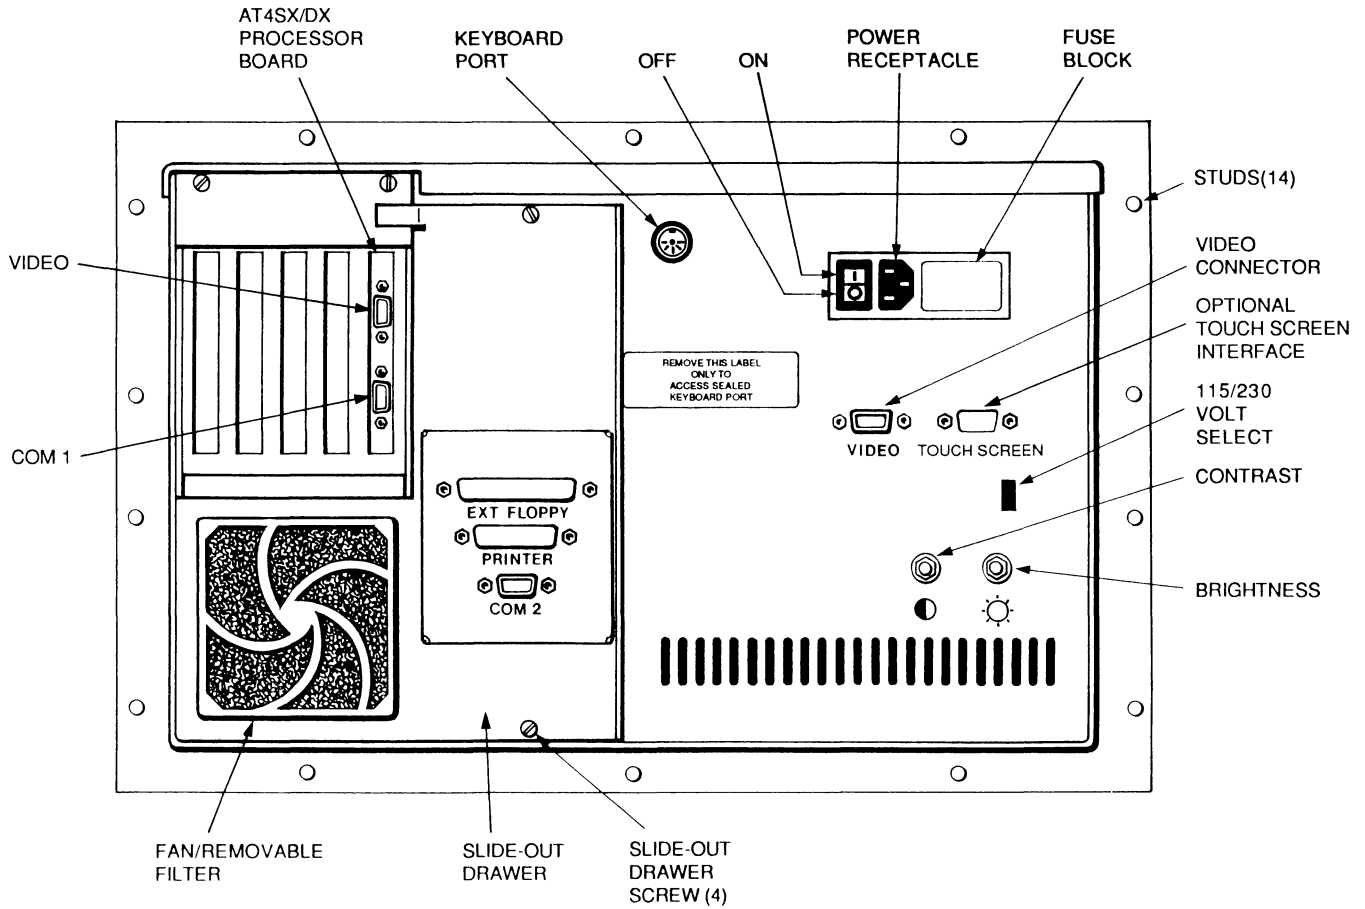

Figure 3-4. Back Panel for 8450-3204/4254/4508 AT4SX/DX/DX2
1. Remove the four screws (shown in Figure 3-4) that attach the drawer to the 8450 back panel.